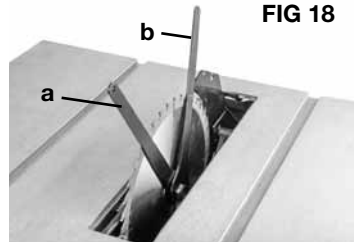

FIG 18
### **TO REPLACE THE BLADE (FIG 18)**
5. Turn the second wrench (b) clockwise to tighten, counterclockwise to loosen. Loosen and remove the arbor nut. See FIG 18.